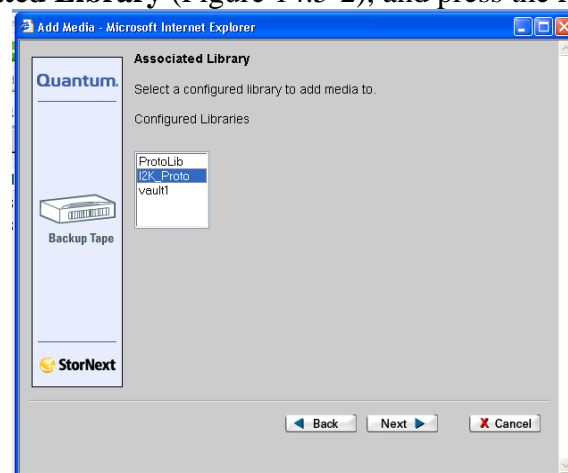

Figure 14.5-2. Associated Library Page
- 5 Select the **Associated Library** (Figure 14.5-2), and press the **Next** button.